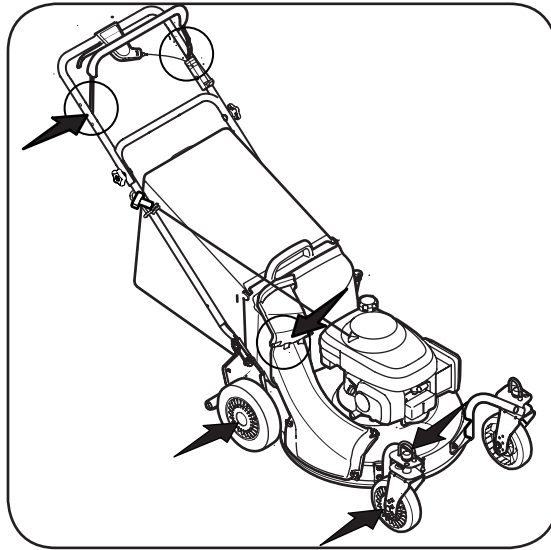

Figure 5-1: Areas to lubricate on the mower.
- Lubricate pivot points on the blade control at least once a season with light oil. The blade control must operate freely in both directions. See Figure 5-1.
- Lubricate the torsion spring and pivot point on each end of the adapter door at least once a season with light oil to prevent rust. See Figure 5-1.